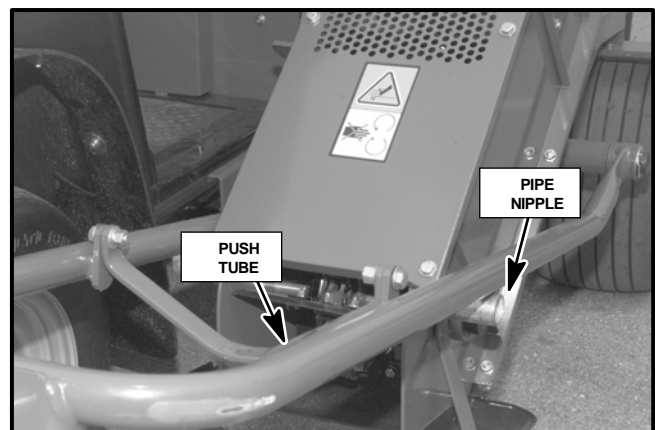

Figure 17
3. Lower the push tube so it rests on the pipe nipples (See Fig. 17).